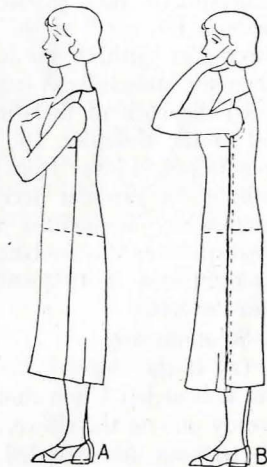

FIG. 8.—Dress out of balance and falls backward.
9. **Dress falls backward or is out of balance.**—The front and back have not been properly joined at the under-arm seam (Fig. 8). This fault is often not discovered until the dress is finished or at least until after the sleeves have been placed. One may determine the fit earlier by pinning only the under-arm seam for the first fitting, and during the fitting remove the pins and check the position of the front and back. After opening the seam the front and back are pinned together where they naturally come, watching carefully the position of the grain in the front and back. The ends of the seam should not be forced to meet at the armseye. If the back needs to be raised or the front, this is the time it should be done because if they are brought evenly together at the armseye, then when the dress is worn the back will gradually work into the position that it would normally assume and pull the front with it. If necessary to raise the back or the front, the lower part of the armseye will need to be recut.